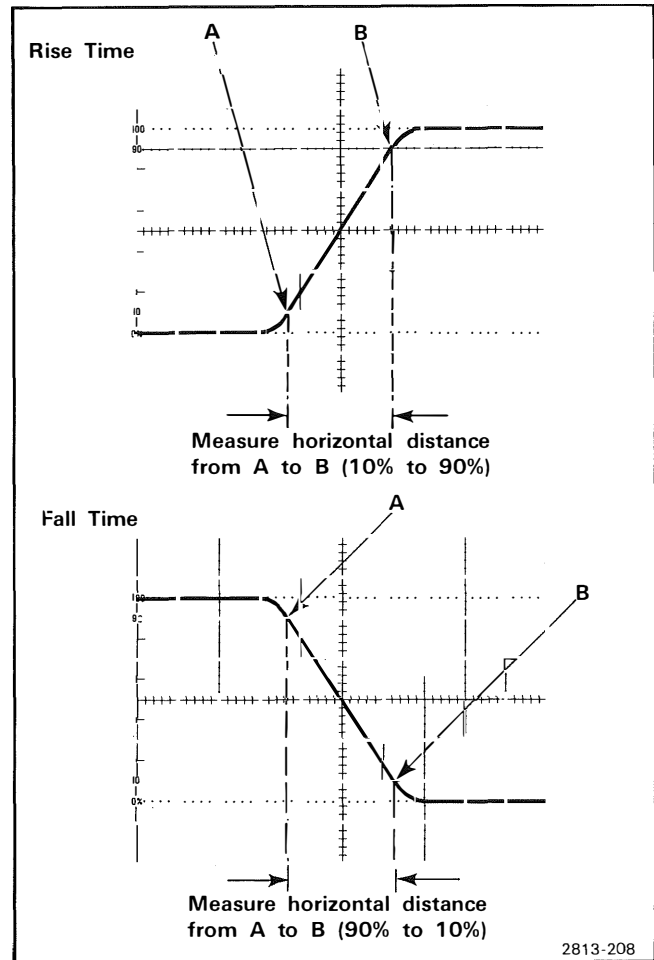

Figure 2-8. Measuring the rise time and fall time of a pulse.
6. Set the TIME/DIV and POSITION controls to display the rising or falling portion of the waveform within the center eight graticule divisions as shown in Figure 2-8 (see General Operating Information in this manual for discussion of timing measurement accuracy).
7. Determine rise time or fall time by measuring the horizontal distance in divisions between the point on the rising or falling portion of the waveform that is 10% and the point that is 90% of the total display amplitude (see Fig. 2-8).
EXAMPLE: Assume that the horizontal distance between the 10% and 90% amplitude points is 2.5 divisions, and the TIME/DIV setting is $0.1 \mu\text{s}$ (see Fig. 2-8).